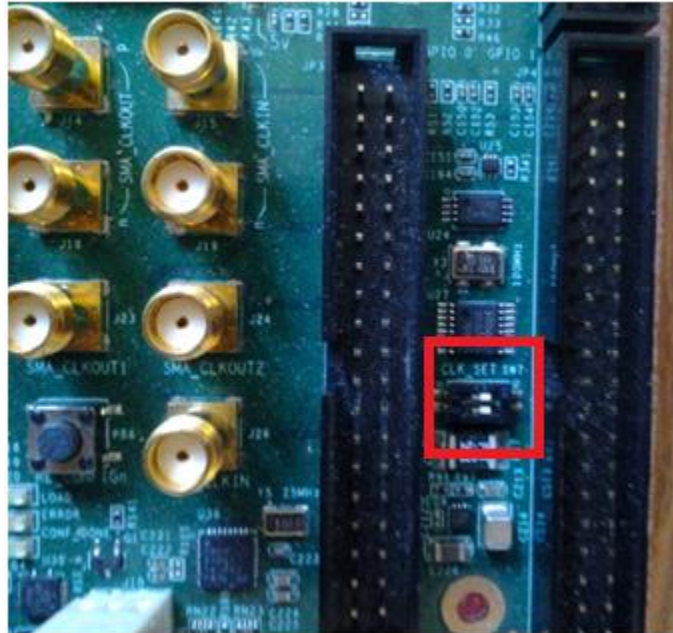

Figure 1: Select 100 MHz clock
1. Select the 100MHz clock by setting SW7 switch to 00 (both ON) position as shown in Figure 1.